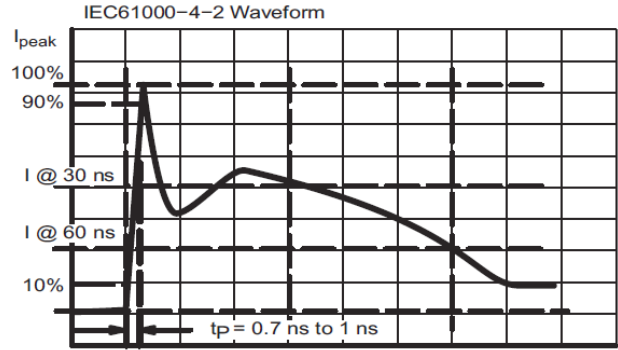

Figure 3. IEC61000 -4-2 Spec
4. SEE FIGURE 3 AND 4 FOR TEST SETUP